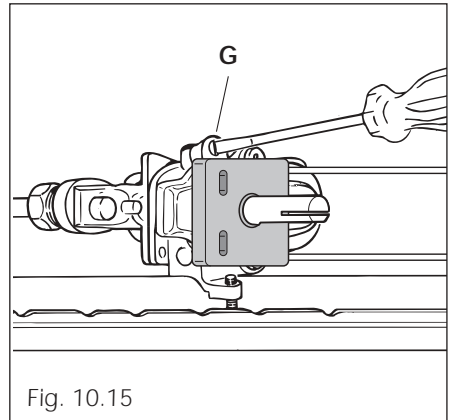

Fig. 10.15
- remove the knob and by a thin screwdriver (3 mm section - 100 mm long) unscrew of about a half turn the screw by-pass **G**, passing through the front panel hole (fig. 10.15)